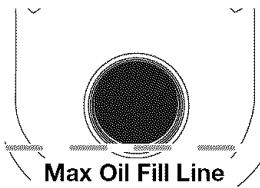

Fig. 19
5. Look into the oil fill hole, use a flashlight if needed. The oil should be just touching the innermost thread (Fig. 19).
6. If the oil level is not touching the innermost thread on the oil fill hole, add a small amount of oil to the oil fill hole and recheck (Fig. 19). Repeat this procedure until the oil level reaches the innermost thread on the oil fill hole.